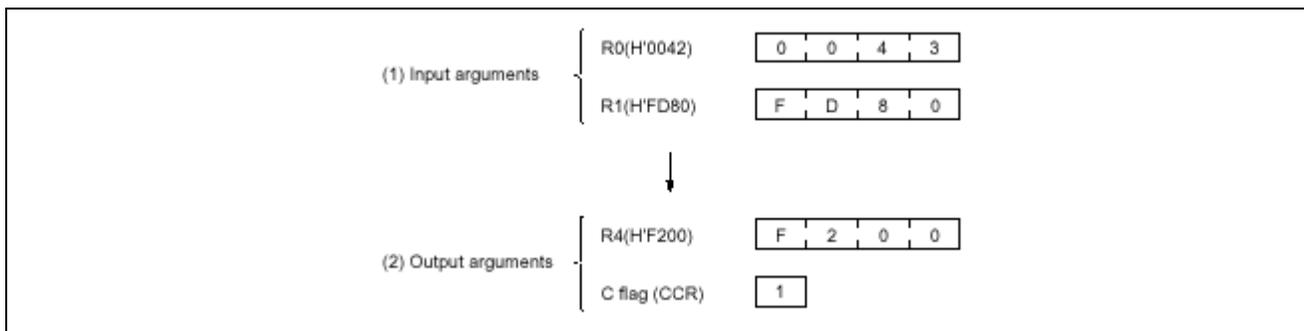

Figure 5.1 Example of Software CCASE Execution
The clock cycle count in the specifications (74) is for the example of figure 5.1 being executed.
When the input arguments are set as shown in (1), the program refers to the data table (see figure 5.1 and places the start address of the processing routine in R4 as shown in (2).
3. When the software CCASE is executed, a data table as shown in figure 5.1 is required. The data table should be as follows: